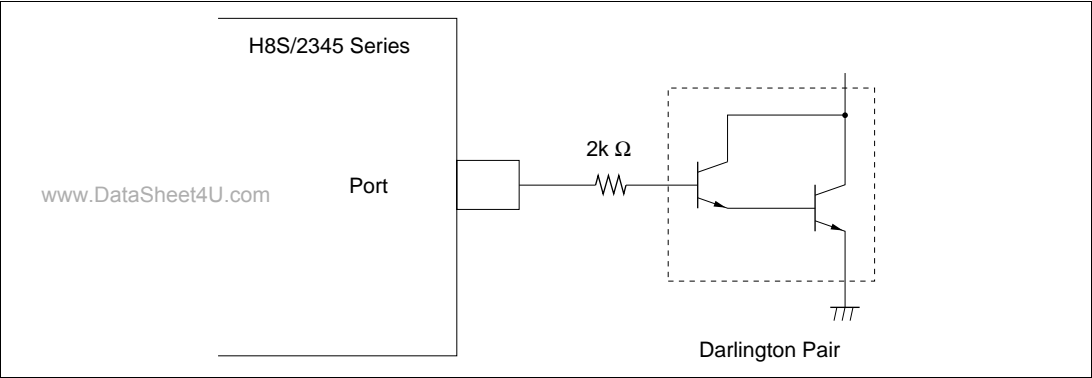

Figure 20.1 Darlington Pair Drive Circuit (Example)
2. When driving a darlington pair or LED directly, always insert a current-limiting resistor in the output line, as show in figures 20.1 and 20.2.